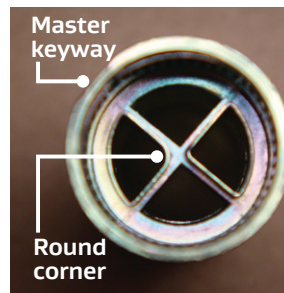

Figure 77: Mating face of connector body
25. To install the connector insert into the connector body, line up the section of the connector insert with the round point in the center to the section divider of the connector body with the round point. The master keyway should be to the right of the section with the round point (Figures 77 and 78). You will need to look at the mating face of the connector body as the insertion face of the body has no round point.